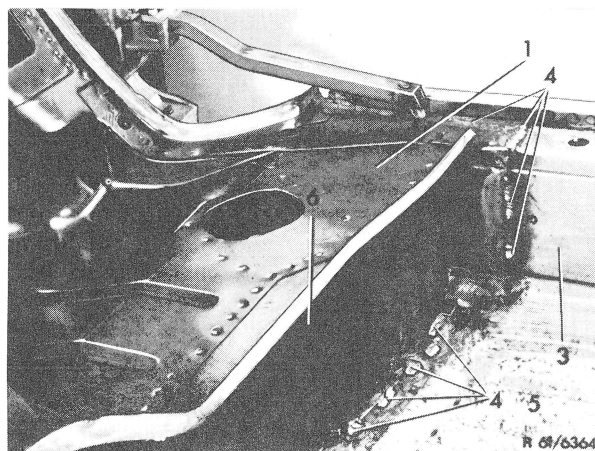

Fig. 4
10 Spot weld rear floor (1) to side member (3) and bead weld (4), (Fig. 4).
11 Connect cross member outer shell (6) to floor plate (5) by means of bead welds (4) (Fig. 4).